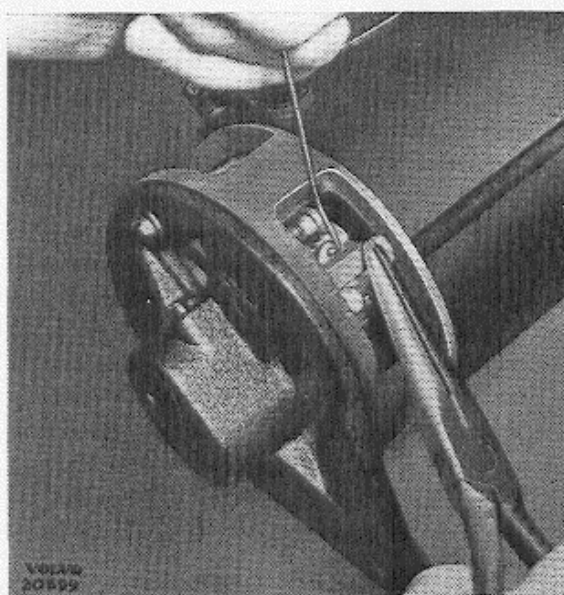

Fig. 12.
2. Unscrew the carbon brush connecting cable. Lift up the pressure arms or the carbon brush springs with the hook and pull up the carbon brushes, see Fig. 12.
Remove the carbon brushes by loosening the contact on the brush holders, lift up the brush spring and pull up the carbon brush with pliers, see Fig. 12.